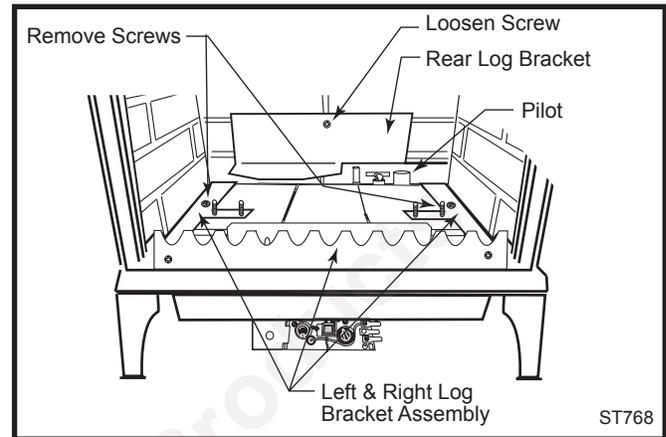

Fig. 29 Remove rear log bracket and left and right log bracket assembly.
5. Remove the rear log bracket by loosening the screw and sliding the bracket up. **CAUTION:** Do not remove the screw completely. It would be very difficult to replace it. (Fig. 29)
6. Remove the right and left log bracket assembly by unfastening the two screws which hold the burner in place. (Fig. 29)
14. Locate pilot. (Fig. 29)